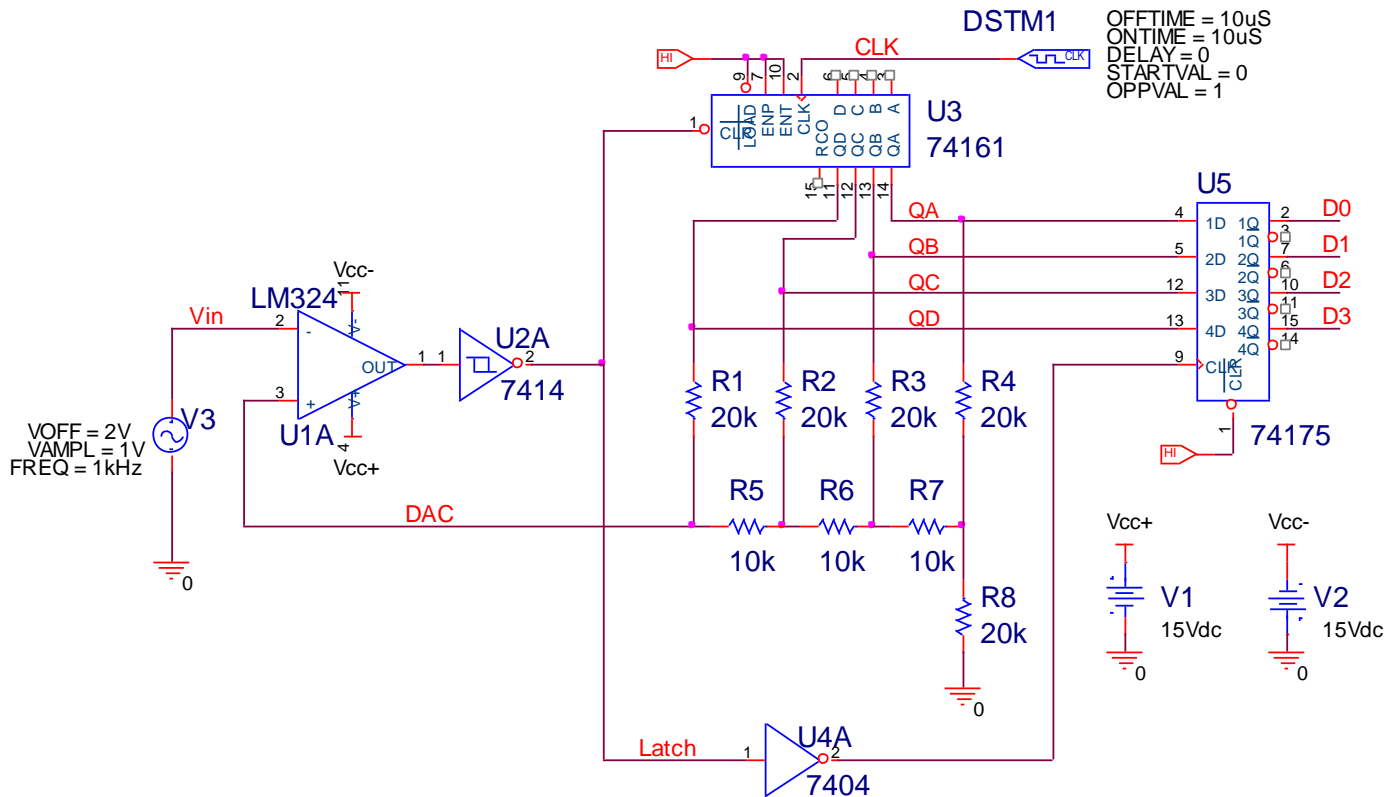

Figure 2. Discrete ADC Schematic
6. Add a new schematic to your project: capture the Discrete ADC circuit of Figure 2. The instructions for creating the schematic are given below: